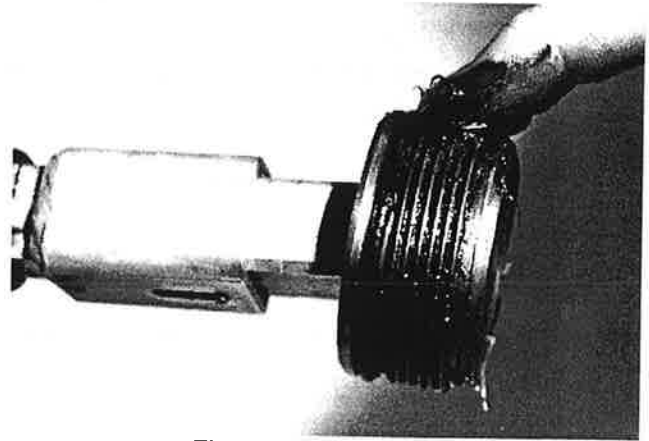

Figure 59. Lubricate Plug
F. Lubricate O-ring on plug with an all-purpose lubricant. See Figure 59. Check O-ring to make sure it is not twisted and is not damaged. Replace if necessary.